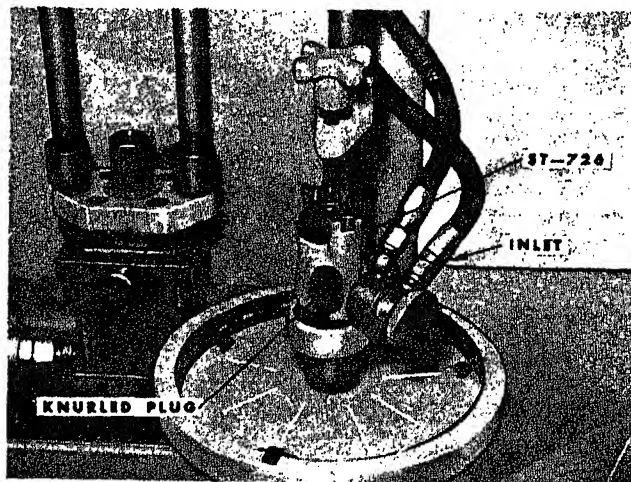

Fig. 6-1-42. Cylindrical Injector in ST-668
6. Insert cylindrical injectors in ST-726 Adapter. Fig. 6-1-42.